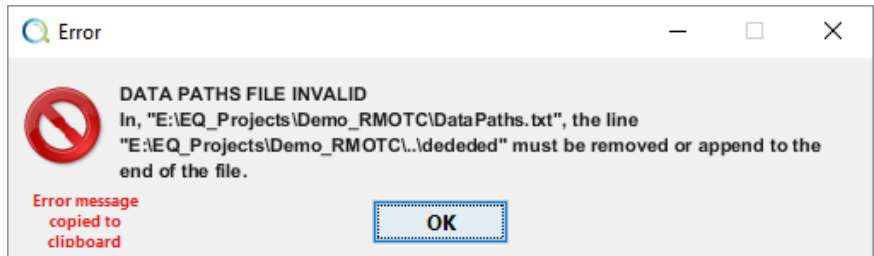

Figure 23: DataPaths.txt error message.
In case the message of Figure 23 pops up when trying to visualize some seismic or GPR data, EarthQuick simply needs users to intervene on the *DataPaths.txt* file located in the root folder of your project.
- If the first row refers to a non-existing folder, same error as shown in Figure 23 is obtained.
Case 1: Error message *DATA PATHS FILE INVALID [...]* must be removed or append to the end of the file (see Figure 23).